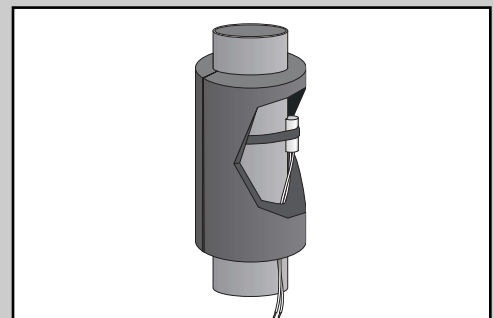

Figure 2-21
1. When strapping the Universal Sensor directly to the pipe, use the cable tie provided. Place insulation around the sensor to reduce air currents affecting the sensor measurement. Do not over-tighten the cable tie as this can cause damage to the sensor. (See Figure 2-21.)